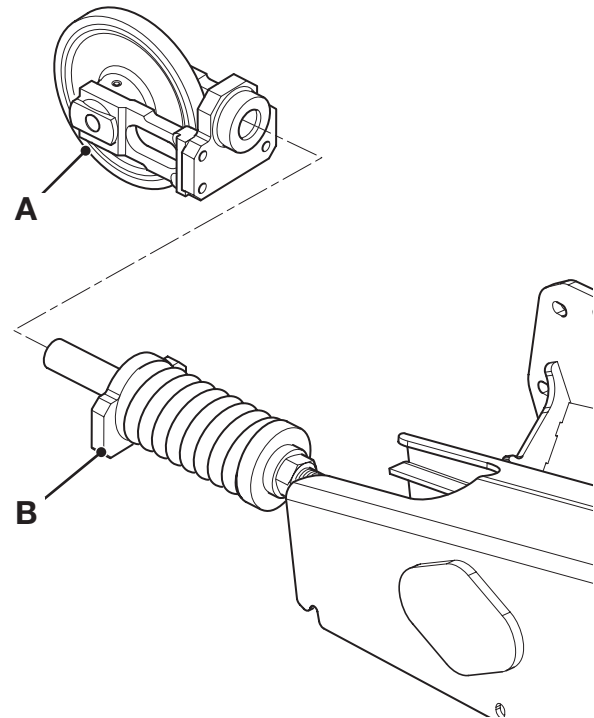

Fig 26.
- 2 Pull front idler wheel assembly **A** out of track frame ⇒ Fig 26. \(□ J-18\).